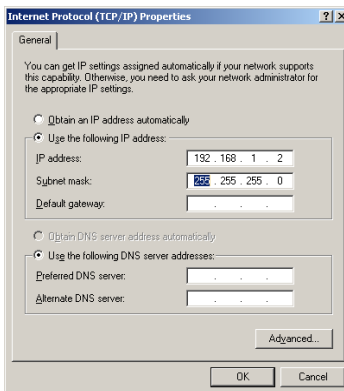

Figure 4: Internet Protocol (TCP/IP) Properties Window
6. Select Use the following IP Address, and fill in the details as shown in Figure 4.